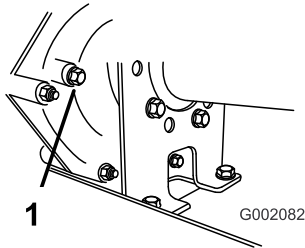

Figure 42
2. Remove the bolt from the level-indicating hole (Figure 42).